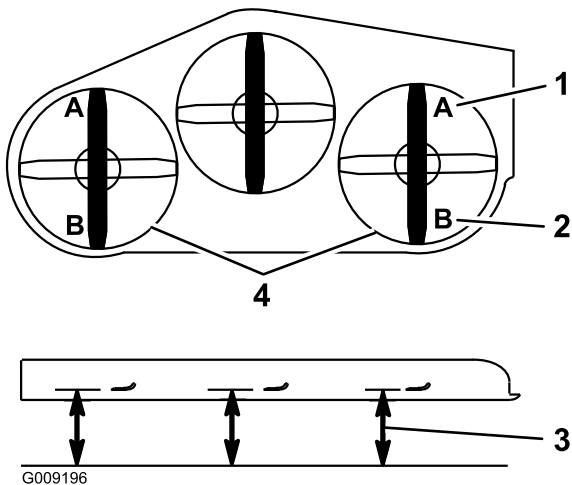

Figure 90
9. On both sides of the deck, measure from the level surface to the front tip of the blade (Position A). The measurement should read 7.6 mm (3 inches) (Figure 90).
15. On both sides of the deck, measure from the level surface to the back tip of the blade (Position B). The measurement should read 8.3 cm (3-1/4 inches) (Figure 90).